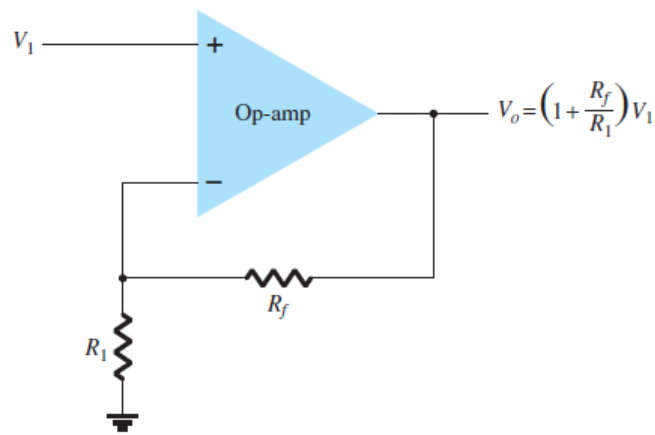

Figure 11.3.2: Non-Inverting constant-gain multiplier.
The connection of Fig. 11.3.2 a shows an op-amp circuit that works as a non-inverting amplifier or constant-gain multiplier.
1. Connect the circuit as shown in Fig. 11.3.2 with certain modifications.